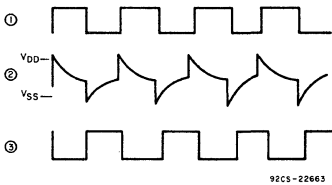

Fig. 2 — RC-oscillator operating waveforms.
RCA COS/MOS parts, i.e., CD4007A, CD4001A, CD4011A, etc.) and a single resistor and capacitor. The operating waveforms for this circuit are shown in Fig. 2.
increasing or decreasing with discontinuities equal in magnitude to V_{DD} during the instant of switching. However, since point (2) is protected by a standard input-protection circuit common to COS/MOS devices, the waveform is clamped at one diode voltage drop above V_{DD} and below V_{SS} . (Refer to waveforms in Figs. 2 and A1.) The calculations for the period of this multivibrator circuit are shown in Appendix A; the final equation for the period T is